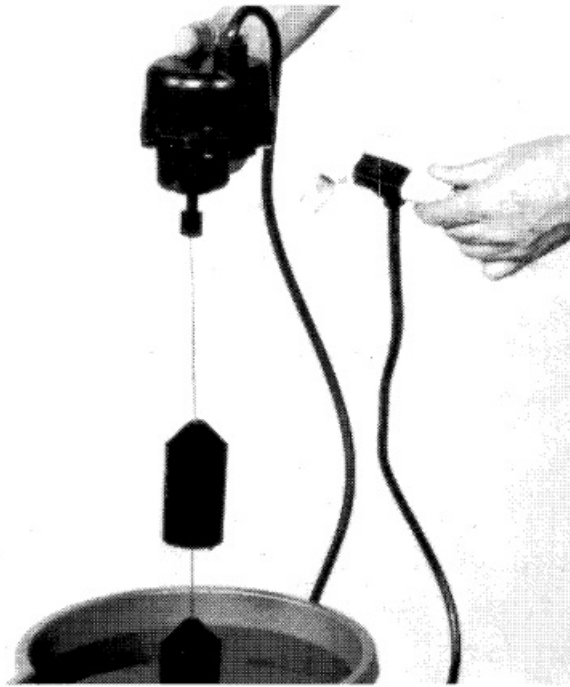

FIG. 16
- **e.** Raise switch until about  $\frac{1}{2}$  of lower weight is out of water and light should go out. Fig 16.